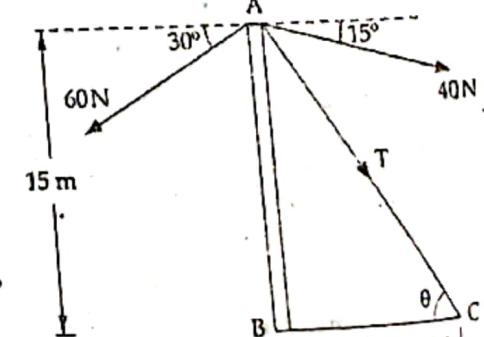

Fig. 4
Q.1. Two cables which have known tensions of 40 N and 60 N are attached to the top of a tower AB as shown in Fig. 4. What tension will be induced in the guy wire AC if the resultant of the forces exerted at the top A by the cables acts vertically downwards?